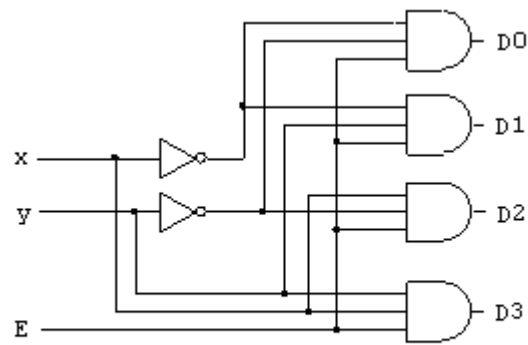

Figure 8.2 Logic Diagram for the 2-to-4 Decoder
Now, the logic diagram for the 2-to-4 decoder can obtained as shown in Figure 8.2.
1. Construct the logic circuit of 2-to-4 Decoder that shown in Figure 8.2.